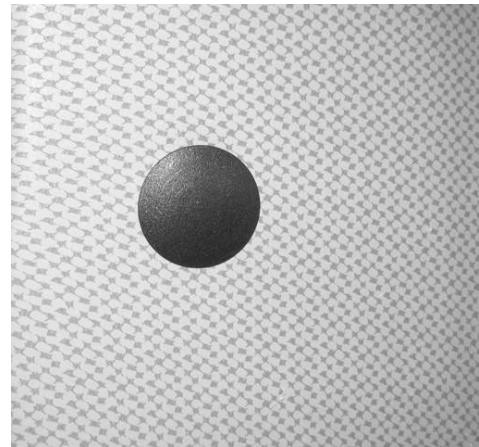

Figure 12-10
13. Install a plastic plug (S5000012-001) into the middle and lower holes (see Figure 12-10).